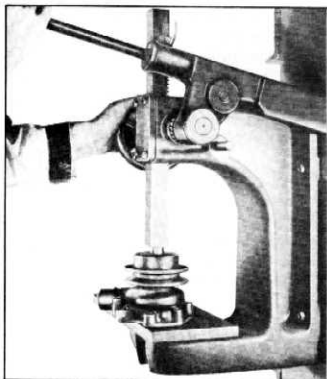

Fig. 129—Installing Pump Pulley
7. Place pump in arbor press with end of pump shaft supported on a small flat plate and press pump pulley onto shaft (fig. 129) until pulley is flush with end of shaft.